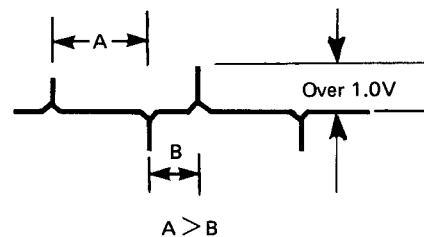

Figure 88.
2. Observe the output of TP-701 on oscilloscope (with TP-708 grounded), and check its values as shown. (Fig. 88)